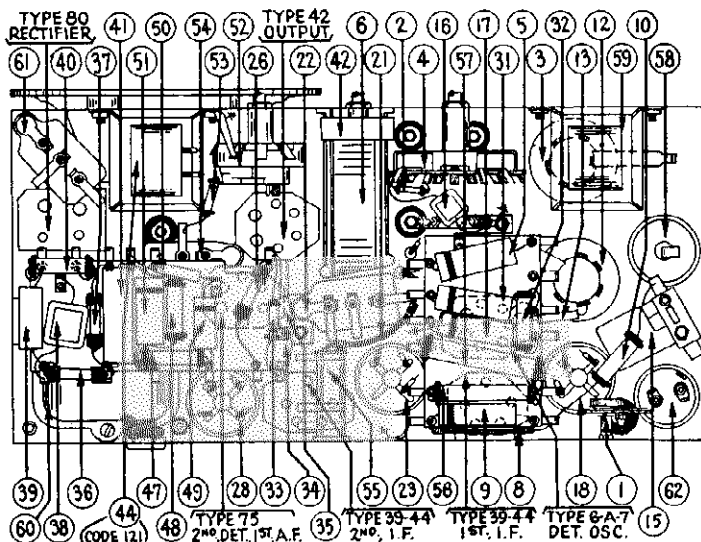

Fig. 4—Bottom View Showing Parts
ADJUSTMENT OF THE WAVE TRAP—Replace the grid clip upon the Detector-Oscillator tube (Type 6A7). Connect the output leads from the signal generator directly to the antenna and ground terminals of the receiver. Set the Wave-Band Switch of the receiver to the standard broadcast band (left hand position) and the Station Selector at the low frequency (540 K.C.) end. Adjust the Wave Trap condenser to give MINIMUM response to a 460 K.C. signal from the signal generator. The Wave Trap ① is located at rear and underneath the chassis, and is shown in Figure 4. It is reached from the rear of the chassis, by inserting the fibre wrench thru the hole near right-hand rear corner of chassis.
Finally set the signal generator at 600, tune in this signal and adjust the oscillator "L. F. condenser", located underneath chassis ⑩ in Fig. 4) to maximum reading. This adjustment is reached thru the hole in top of chassis, between the two electrolytic condensers (left hand end of chassis when facing rear).
33	*Does not appear in Fig. 4.